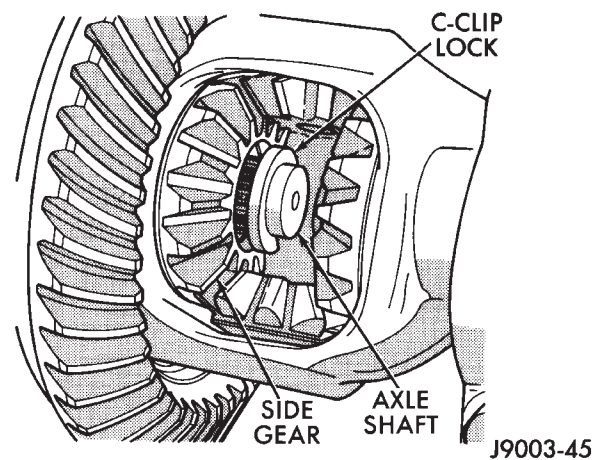

Fig. 9 Axle Shaft C-Clip Lock
- (7) Push axle shaft inward and remove axle shaft C-clip lock from the axle shaft (Fig. 9).